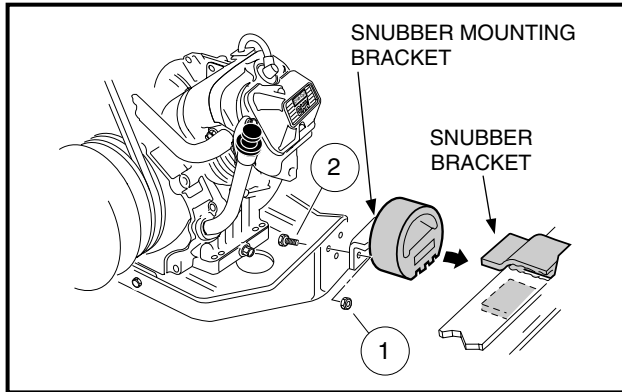

Figure 9-7 Snubber Brackets
2. Working from above, remove the two bolts (2) and two lock nuts (1) securing the snubber bracket to the engine mounting plate (**Figure 9-7, Page 9-8**).
2. Tighten snubber bracket mounting nuts (1) to 13 ft-lb (17.6 N·m) (**Figure 9-7, Page 9-8**).